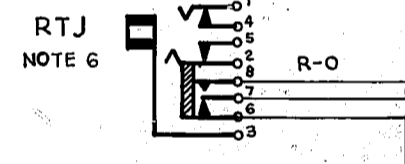

FIG. 6
BATT. FUSE $\frac{BK}{0.9mm} \frac{50V}{0.9mm} BK$ FSe-FRe (FIG. 8) - FLc (FIG. 6)
FL21-23-25-27-29-1-3-5-7-9 (FIG. 6)
1.5A PER FIGS. 6, 8, 9 & 10 (20 FLICKER RELAYS MAX).
- WHEN FIG. 6 IS USED, ADD WIRING SHOWN THUS -1- & DELETE WIRING SHOWN THUS -2-